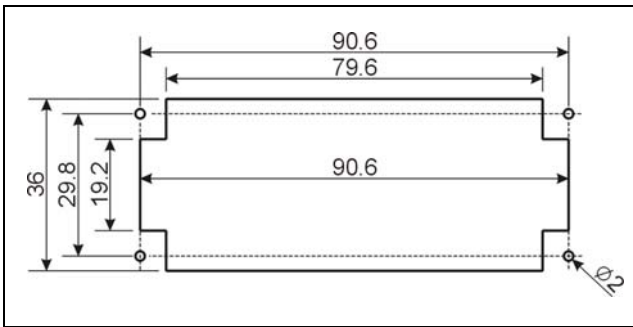

Figure 3.7 Fixing hole positioning diagram of HCS-48U6DVOTTME flush-mounting voting unit (unit: mm)
- Cut a hole in the table according to the dimensions in figure 3.7;